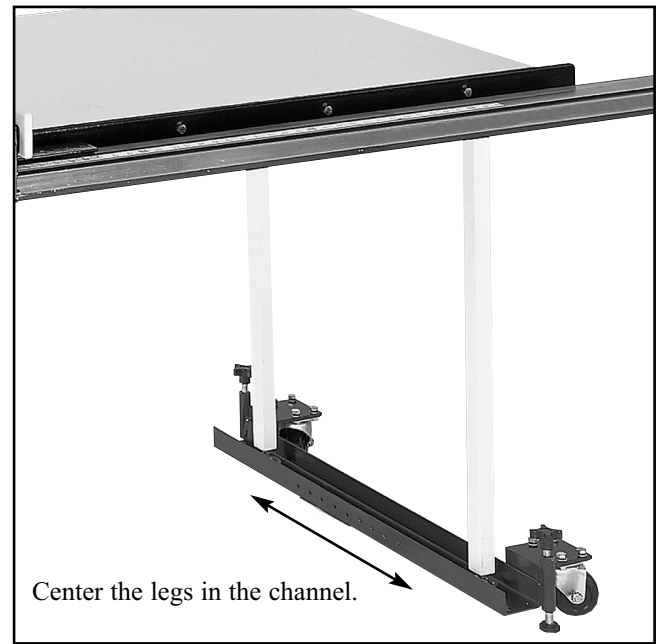

Figure 6. Extension table legs on channel.
7. Take the rod with the attached black rubber pad and insert it into the bottom of the leg post. Now take the threaded rod with the knob and thread it into the top of the leg post. **See Figure 6.** The rod on which the foot pad is mounted is magnetic, and when the threaded knob comes in close enough proximity, it will pick up the lower rod. With the Mobile Base sitting on the floor, adjust the knob down so the pad is not in contact with the floor. Do this same procedure for the post on the other corner.
3. If not already assembled, install the extension table on the machine. Place the extension channel assembly under the legs of the installed extension table. **See Figure 6.** The two swivel casters must be positioned so they are on the outside edge. Center the table legs along the length of the channel. Measure the distance from the outer edge of the side rail to the side of the extension channel. The extension bar should be cut to this length less approximately $\frac{1}{2}$ " (this allows for alignment of the holes). Locate your cut so that it is centered between two of the threaded holes. Use a hacksaw and mount the bar firmly in a vise or clamp to a bench top to do the cutting.